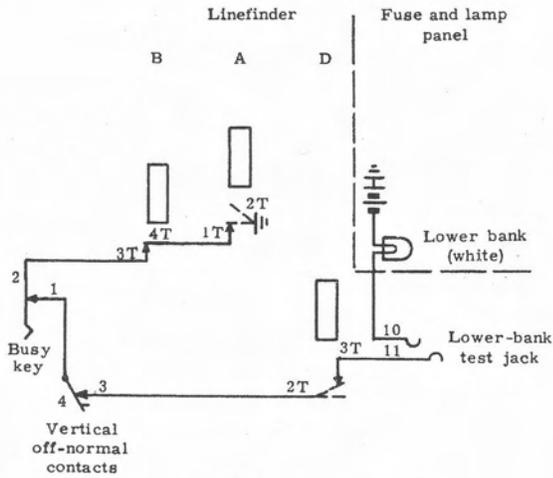

Figure 35. Circuit for lower-bank test to determine which wipers of a 200-line linefinder are in use.
6.51 Tracing a call or a "permanent" (figure 35). If a 200-line linefinder is connected to a line in its lower bank, its relay D is operated (§4.5), and if a switchman presses together linefinder test-jack springs 10 and 11, the linefinder-shelf LOWER BANK lamp lights. If the linefinder is connected to an upper-bank line, relay D is not operated and when test-jack springs 10 and 11 are pressed together the LOWER BANK lamp will not light.